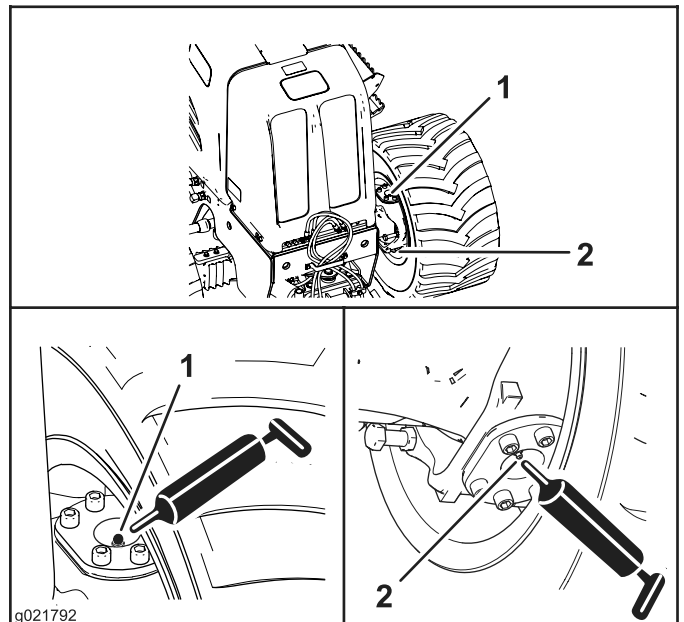
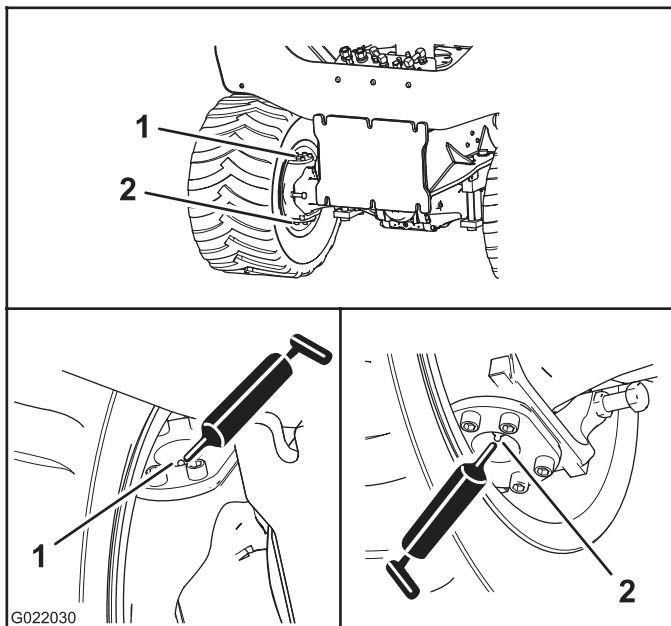

Figure 30
Figure 31
2. Connect the grease gun to the grease fittings for the upper and lower pivots; apply 2 or 3 pumps of grease to each fitting (Figure 30 and Figure 31).